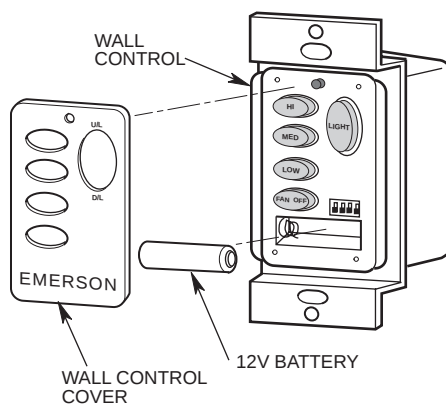

Figure 25
1. Install the 12V battery (supplied) into the wall control (Figure 25).
2. The wall control is supplied with a white or almond color cover. Choose the style that best suits your needs and snap the cover onto the wall control (Figure 25).